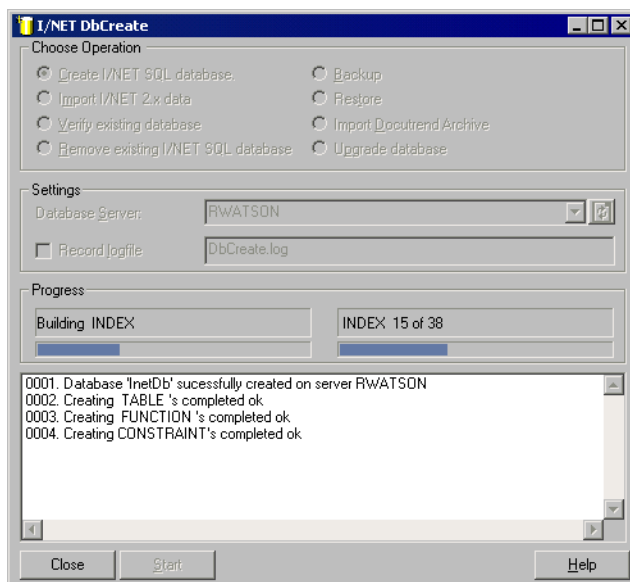

Figure 2-20. DbCreate Builds a TAC I/NET Seven Database
23. DbCreate begins building the initial TAC I/NET Seven SQL database (see Figure 2-20).